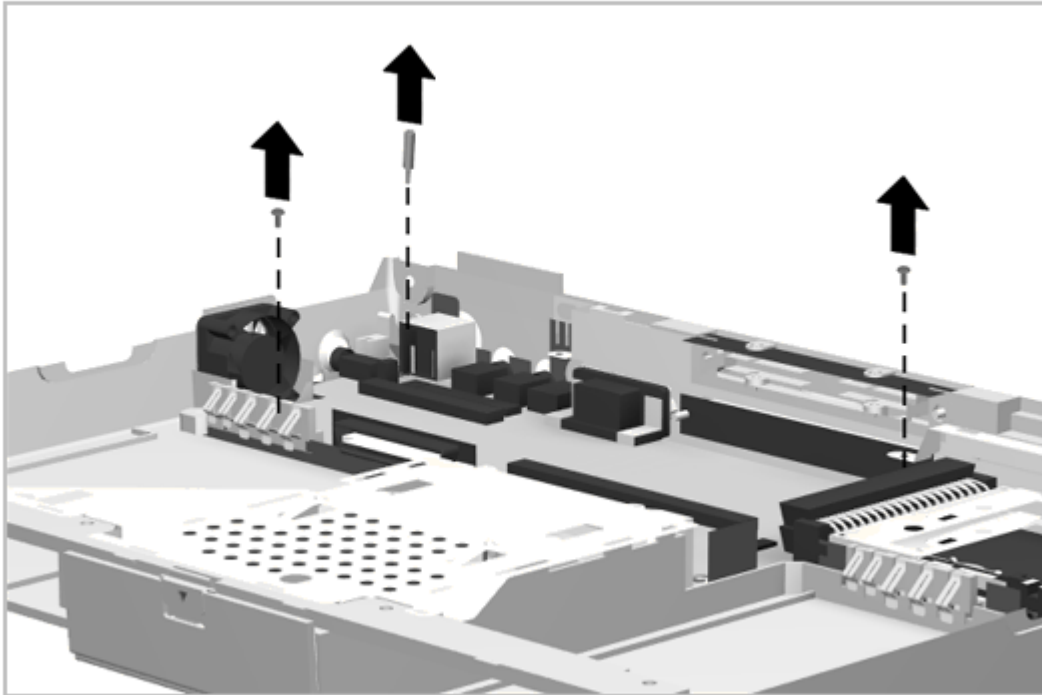

Figure 5-57. Removing the System Board Standoff and Screws
6. Remove the standoff from the left rear corner of the system board (Figure 5-57).
7. Remove the screw from the front left and the screw from the right rear of the system board (Figure 5-57).